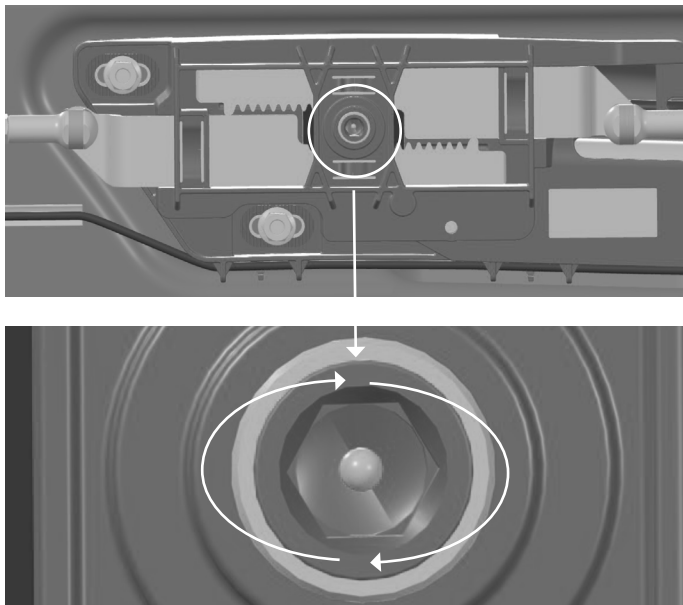

Fig. 14
- Insert an SW6 hex key into the center of the profile and turn it clockwise as far as it will go (Fig. 14). The soft top is then locked.